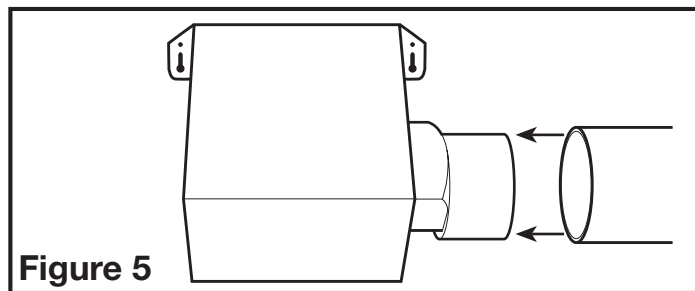

Figure 5
1. Connect the ducting to the fan's duct collar (Figure 5). Secure in place using tape or screw clamp. Always duct the fan to the outside through a wall or roof cap.